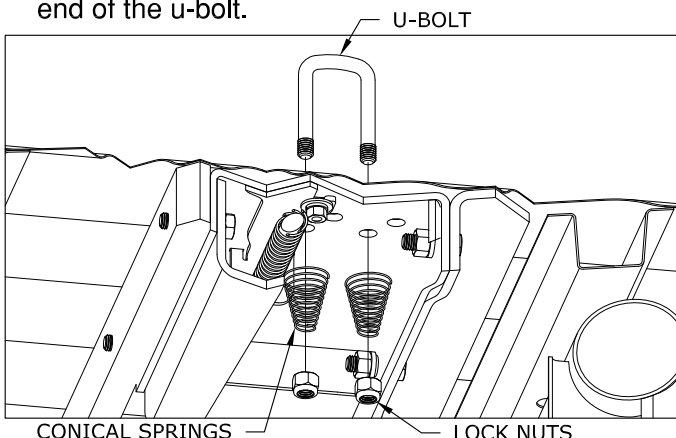

FIGURE G3: Cut away view of bed and center section
3. **Add springs.** Place a conical spring over each leg of the u-bolts and secure with a $\frac{1}{2}$ " lock nut, see figure G3. Tighten the lock nut until the nut is flush with the end of the u-bolt.